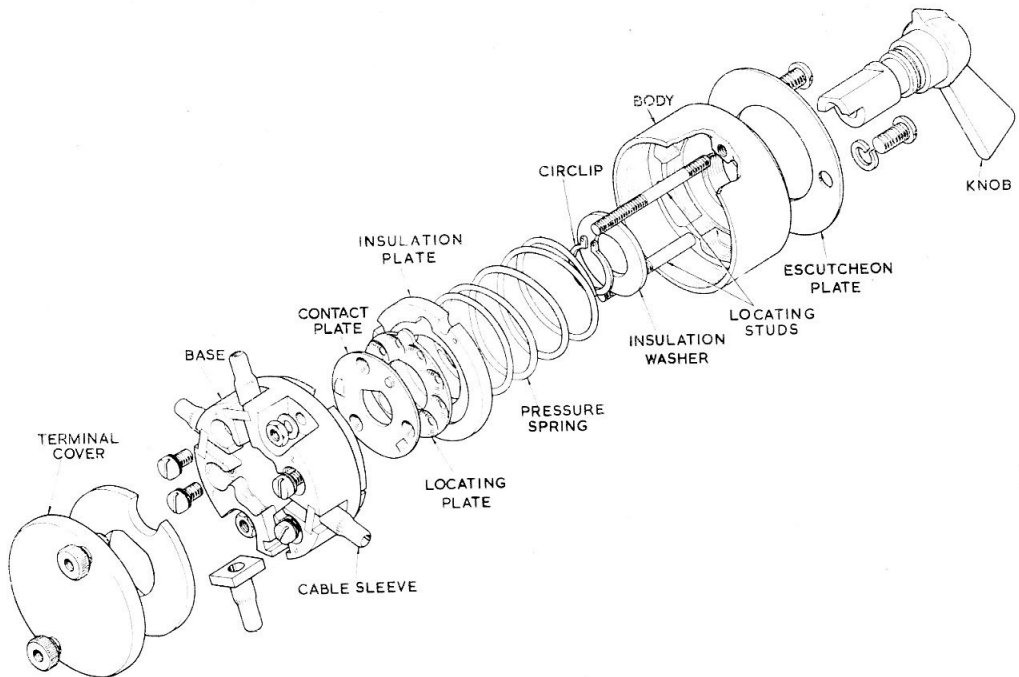

Fig. 3. Switch—exploded view
8. To dismantle the switch for further servicing the following procedure should be carried out, reference being made to fig. 3.
15. To assemble the switch the following sequence should be carried out, reference being made to fig. 3.